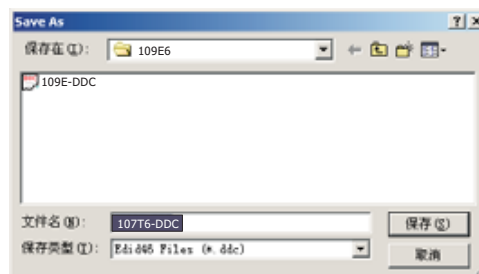

Fig. 25
- 4) Confirm the Serial Number "TY 000130" is updated as shown in Fig. 25.
1. Click  (Save) icon (or click "file"-> "save as") from the tool bar And give a file name as shown in Fig. 25. The file type is EDID46 file (\*.ddc) which can be open in WordPad. By using WordPad, the texts of DDC data & table (128 bytes, hex code) can be modified. If DDC TEXTS & HEX Table are completely correct, it can be saved as .ddc file to re-load it into DDC IC for DDC Data application.